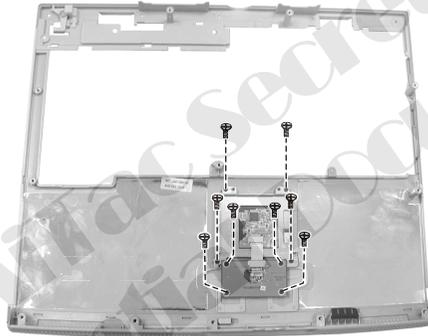

Figure 2-31 Remove the touch-pad
3. Remove the eight screws to lift up the touch pad holder and touch pad panel. (Figure 2-31)